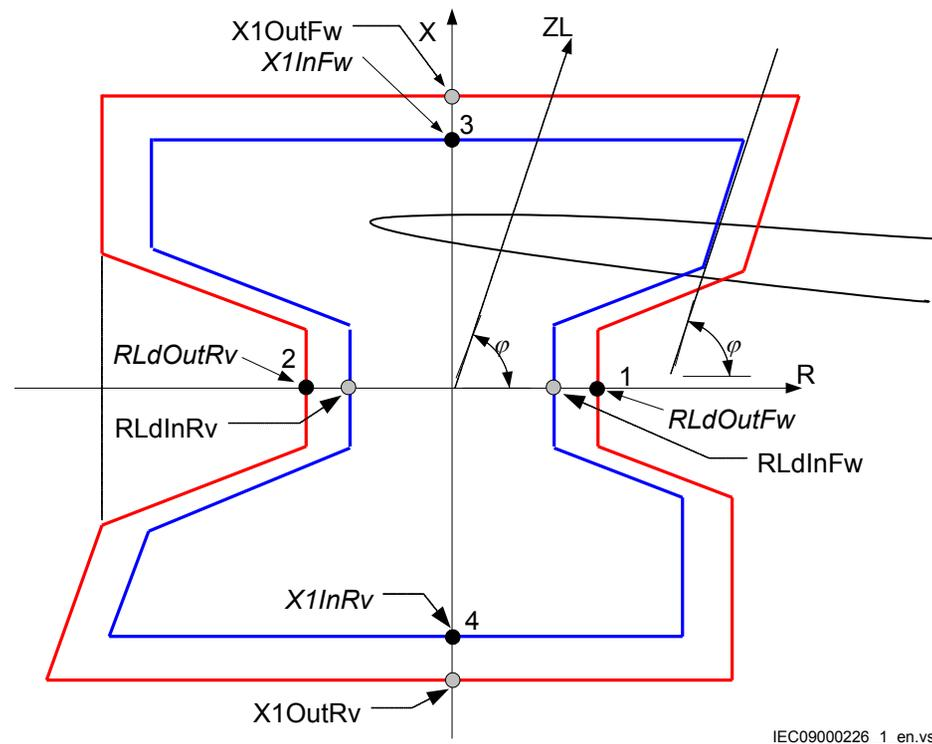

Figure 15: *Operating principle and characteristic of the power swing detection function (settings parameters in italic)*
The test is mainly divided into two parts, one which aim is to verify that the settings are in accordance to the selective plane and a second part to verify the operation of ZMRPSB (68). The proposed test points for validation of the settings are numbered according to figure 15